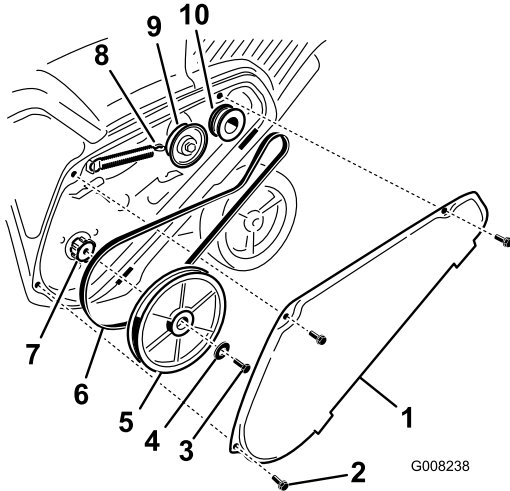

Figure 34
1. Remove the drive-belt cover by removing the 3 bolts as shown in Figure 34.
2. Unhook the brake spring from the idler arm to release the belt tension (Figure 34).
3. Remove the screw and curved washer that holds the rotor pulley (Figure 34).
4. Remove the rotor pulley and the drive belt (Figure 34).
Note: Route the new drive belt first around the engine pulley, then the idler pulley, and finally around the loose rotor pulley positioned just above the rotor shaft (Figure 34).
6. Install the rotor pulley onto the rotor shaft (Figure 34).
7. Install the curved washer and the rotor-pulley bolt and tighten them securely (Figure 34).